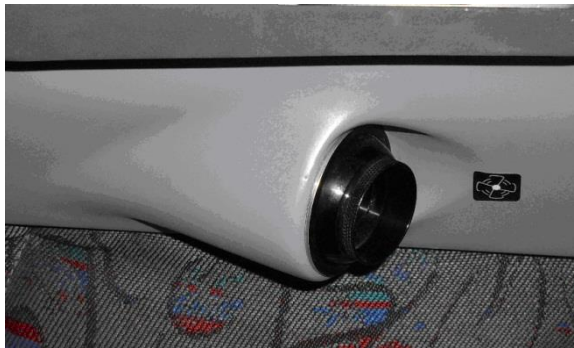

Figure 7.2.6- 1
1. The Adjustable Ball type vent, installed in the right cockpit console (Figure 7.2.6-1)